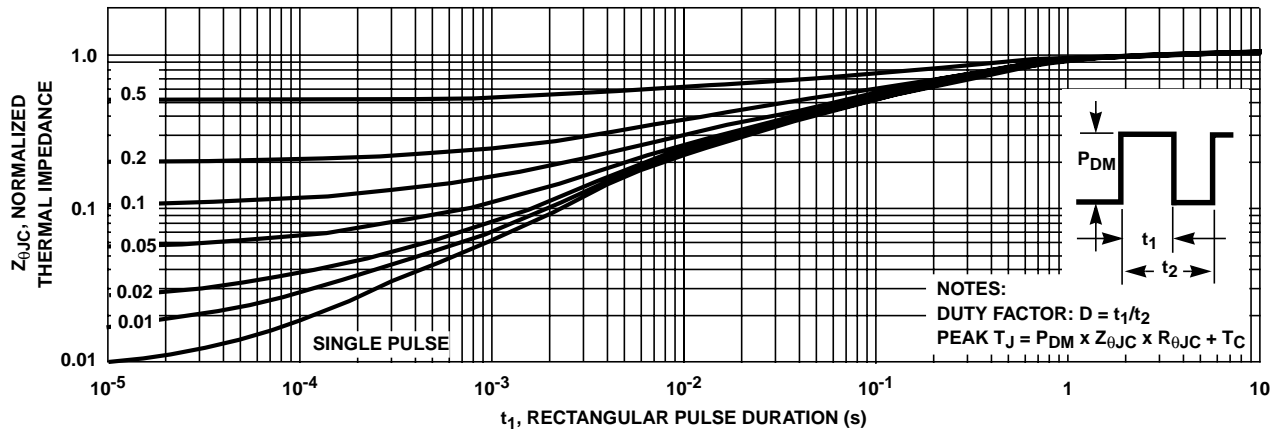

FIGURE 3. NORMALIZED MAXIMUM TRANSIENT THERMAL IMPEDANCE
3. Repetitive rating: Pulse width limited by maximum junction temperature. See Transient Thermal Impedance Curve (Figure 3).